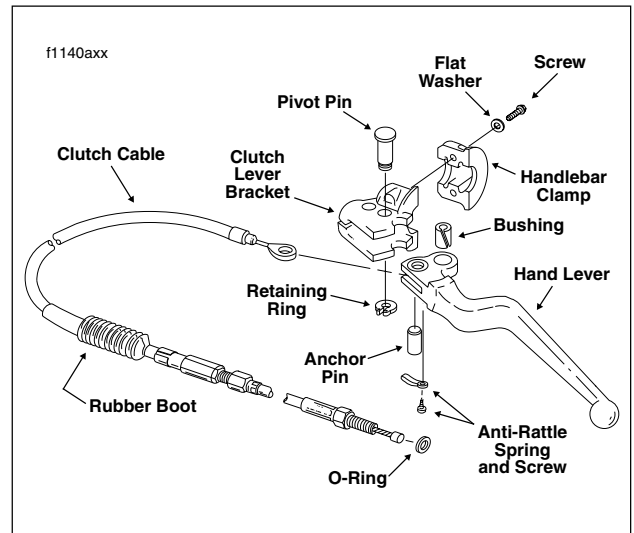

Figure 2-114. Clutch Hand Lever Assembly
7. Remove anchor pin and clutch cable eyelet from clutch hand lever. See Figure 2-114.
1. See Figure 2-114. Insert clutch cable eyelet into groove of clutch hand lever aligning eyelet with hole without bushing. Insert anchor pin through lever and eyelet.
4. If removed, use a T27 TORX drive head and install two screws (with flat washers) to secure handelbar clamp to clutch lever bracket. See Figure 2-114. Starting with the top screw, tighten screws to 60-80 **in-lbs** (6.8-9.0 Nm).